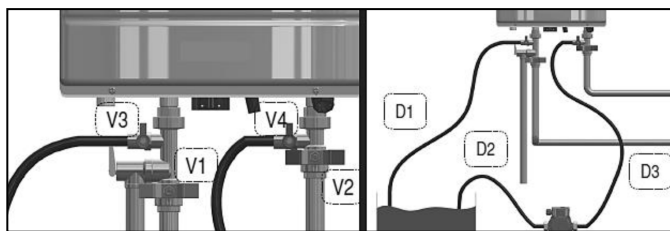

Figure 56 - Flushing the Water Heater
2. Close the shutoff valves on both hot water outlet and cold water inlet lines (V1 and V2). See Figure 56.
3. Connect one hose (D1, Figure 56) to the valve (V3) and place the free end in a bucket. Connect one of the hoses (D3) to the circulation pump outlet and the cold water inlet line to valve V4. Connect the other hose (D2) to the circulation pump inlet and place the free end in the bucket.